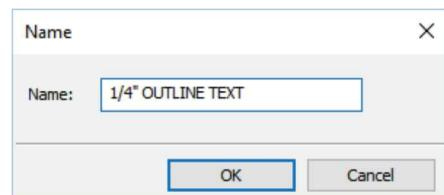

FIGURE 9-4.3 New text name
7. Select **Duplicate** and enter **1/4" OUTLINE TEXT** (Figure 9-4.3).